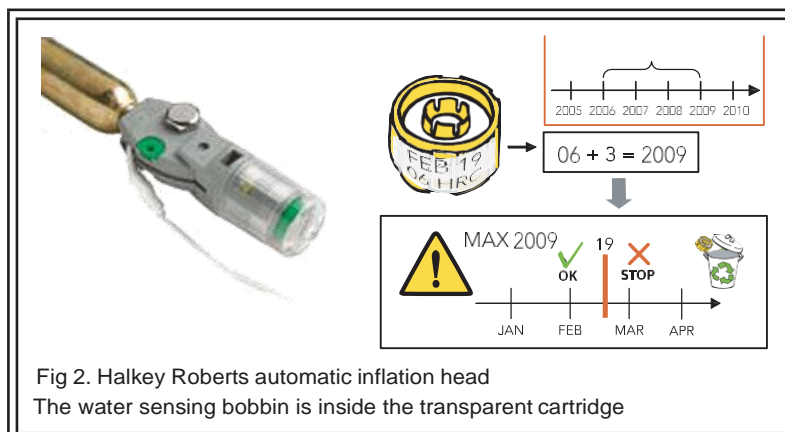

Fig 2. Halkey Roberts automatic inflation head
- b. For automatic models fitted with Halkey Roberts automatic inflation head with transparent cartridge and water sensing bobbin (Fig 2.) The Halkey Roberts Bobbin has a lifespan of three years and is printed with the date of manufacture. Calculate when replacement bobbin is due. There are two different formats for the date. Example 0650 denotes year 2006 on the 50th day. Alternatively Feb 19 06 HRC, denotes the 19th of February 2006. In recreational use the bobbin must be replaced no later than the third year from its manufacturing date.